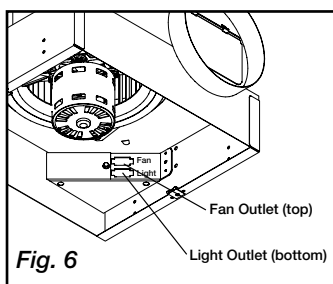

Fig. 6
- Remove wiring cover. If fan/light combination is being used, make sure the fan plug is connected to the fan receptacle and the light plug is connected to the light receptacle, shown in Fig. 6.